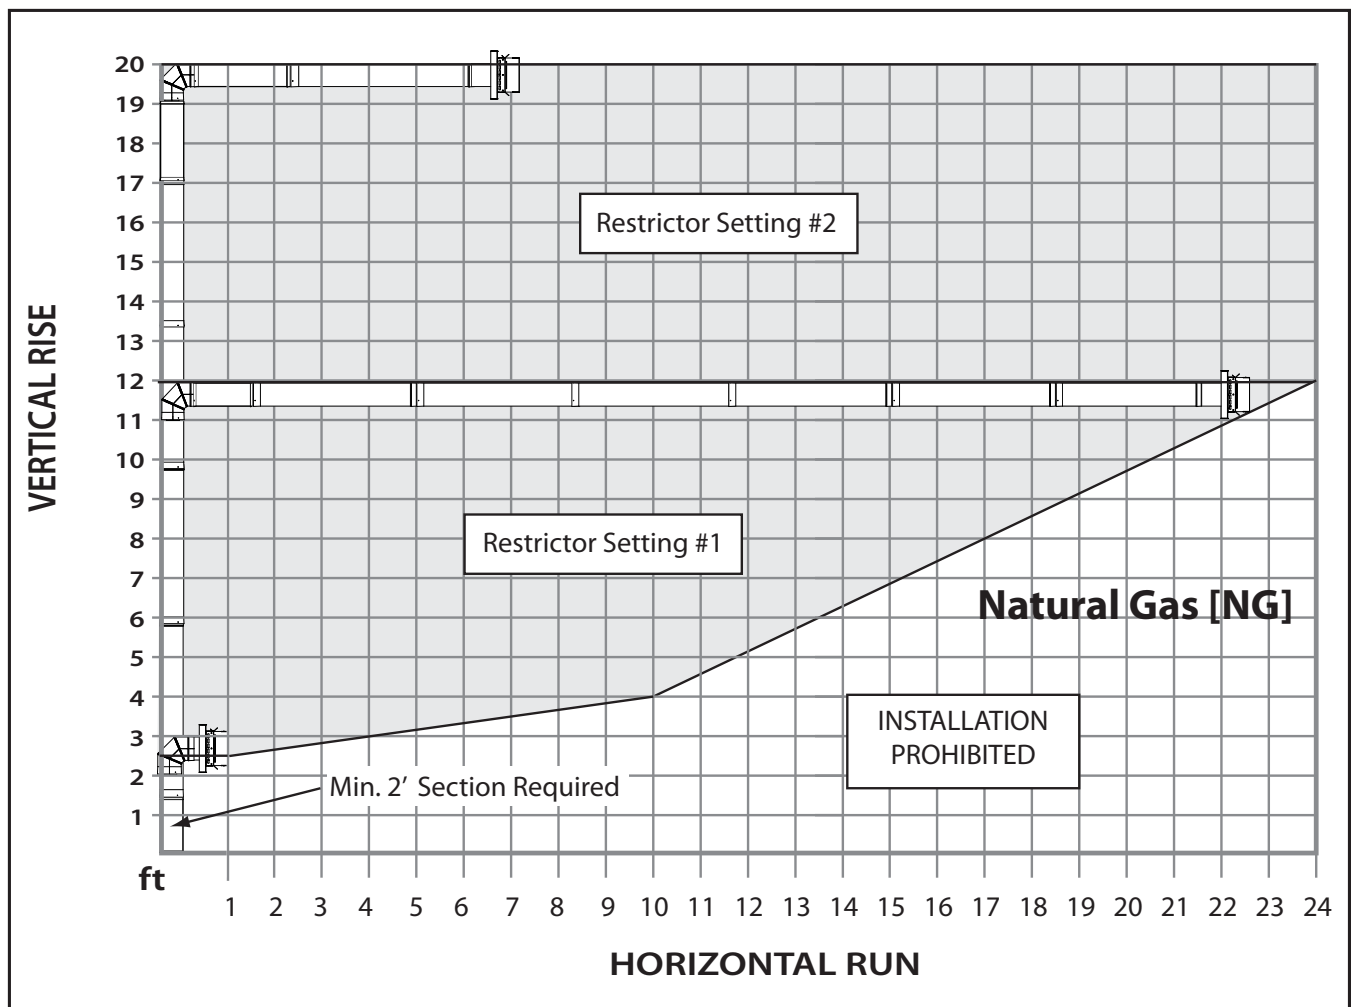

Figure 27: Horizontal Termination - 1 Elbow [NG]
The following charts show the range of venting options available using either vertical or horizontal terminations in conjunction with 0 - 3 90° elbows in the vertical plane. Any planned layout that remains within the shaded areas is acceptable. Having the fewest number of elbows is ideal as they restrict air flow. The **total length of horizontal vent pipe can not exceed 24ft (7.3m)** and the **total vertical length can not exceed 40ft (12.2m)**. Any combination of rise and run can be used as long as it lays within the shaded areas of the following charts. A total of three (3) 90° elbows or six (6) 45° elbows can be used as shown in Figures 27 & 28. In addition to what is shown, if a 90° elbow is used in the horizontal plane, 3 ft (91.4cm) must be subtracted from the allowable horizontal run (for each 45° elbow, 1.5ft (45.7cm) must be subtracted).